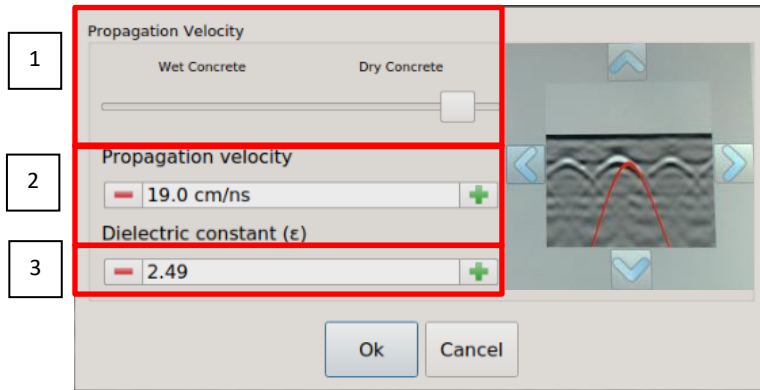

Fig. 62 – Propagation Velocity window
2. Press and hold the screen on the hyperbola (Fig. 62), the software will automatically locate the top and a setting window will be opened (Fig. 62); to better positioning the synthetic hyperbola, use the blue arrows on the Propagation Velocity window (Fig. 62).
3. Adjust the EM waves propagation velocity to adapt the synthetic hyperbola to the real one visible in the radargram (Fig. 62); it is possible to use the slider (1), insert the Propagation Velocity(cm/ns) (2) or Dielectric constant value ( $\epsilon$ ) (3) on the proper window.